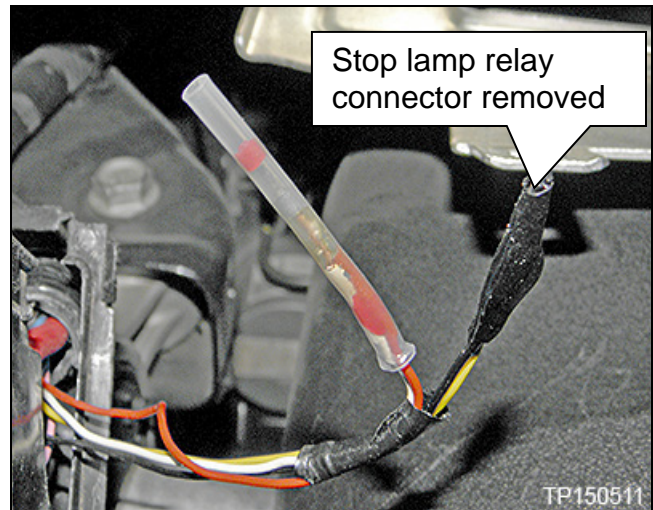

Figure 12
13. Cut the remaining two wires (yellow and black; Figure 12) to the stop lamp relay connector, and discard the connector.